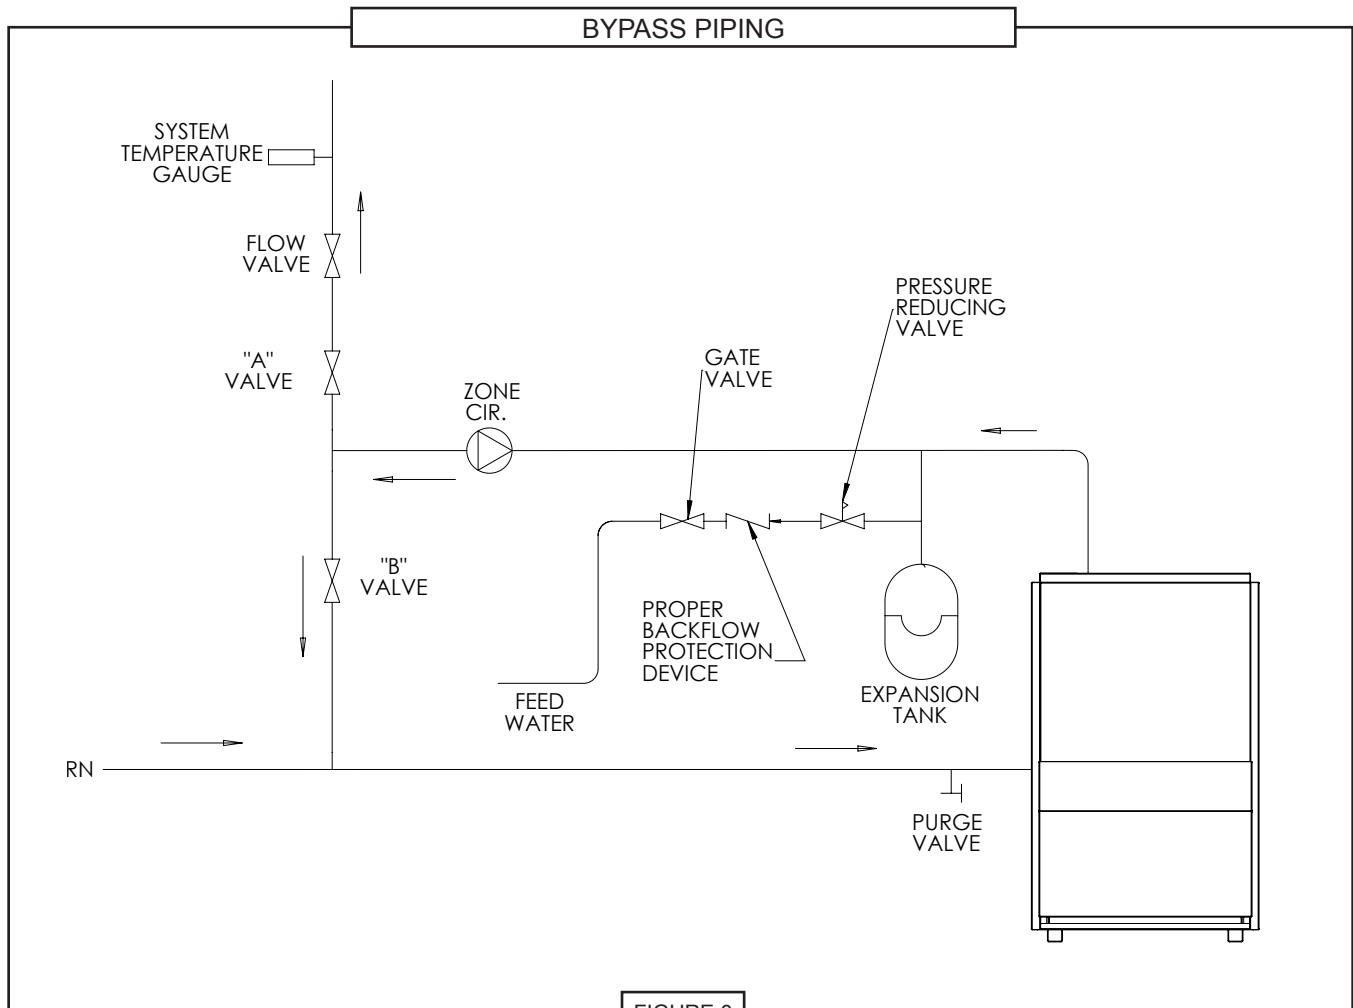

FIGURE 6
A. This method is used to protect boilers from condensation forming due to low temperature return water. Generally noticed in large converted gravity systems or other large water volume systems. (Figure 6)